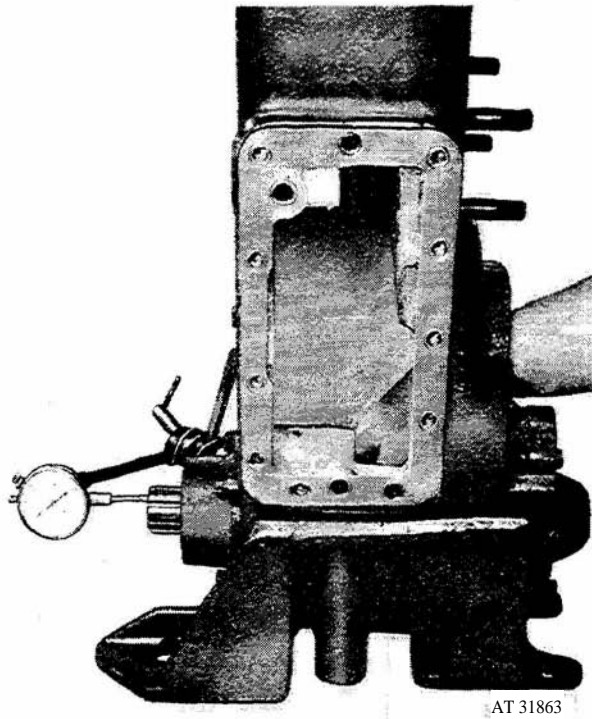

Figure 3-67. Checking input shaft end-play.
(7) Attach a dial indicator to transfer case and position tip of indicator to end of input shaft as shown in figure 3-67. Check input shaft end-play. **End-play** should be 0.008 - 0.010 of an inch, ii' not adjust end-play by varying the amount of shims (28, fig 3-47).